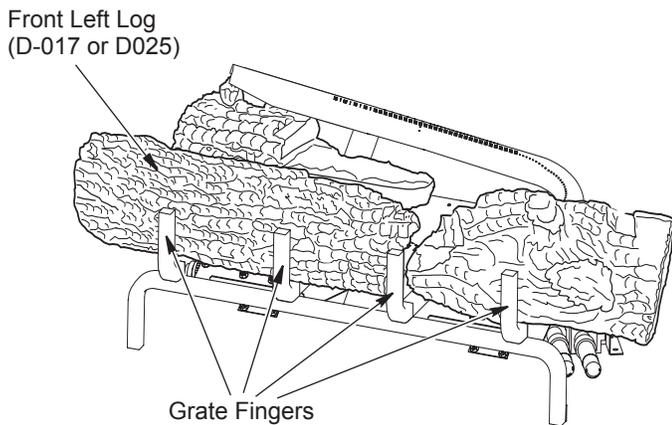

Figure 19 - Installing Front Left Log
3. Find the front left log (LMF42-SC: D017 or LMF48-SC: D025). See Figures 19, 19A, and 19B. The log has a rectangular stand off on the bottom that fits against the lip on the black metal base as shown in figure 19A. The bottom of this log has a slot that fits over the second bar on the grate as shown in Figure 19B. Place the log on the base assembly as shown in figures.